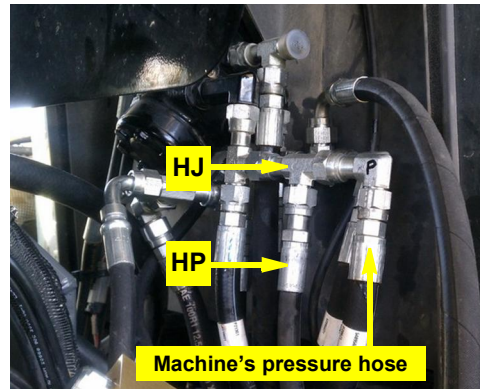

Figure 8: Pressure run-tee installed, pressure hoses connected/reconnected
- a. Install run-tee **HJ** at the run-tee in the orbital's pressure port (front of the two upper ports) - Figure 8).
- b. Connect the machine's pressure hose to the open 'T' end of **HJ** (Figure 8).
- c. Connect pressure hose **HP** to the stem of **HJ** (Figure 8).